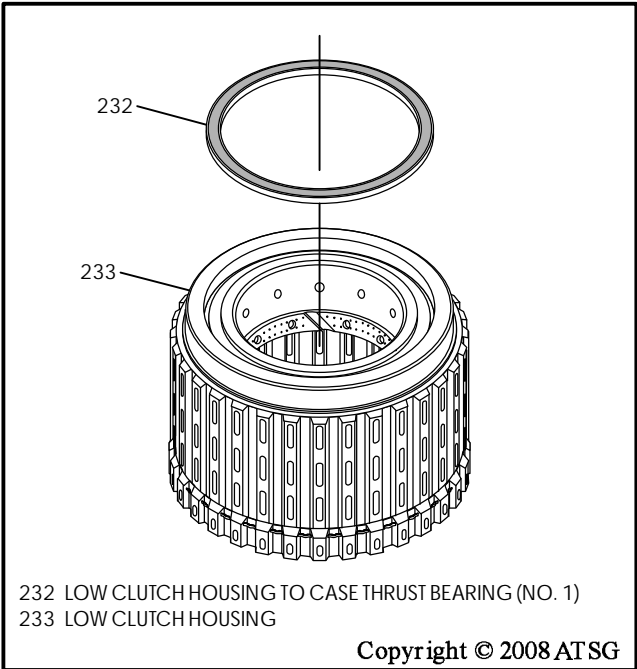

Figure 131
- 17. Turn the low clutch housing over and install the number 1 thrust bearing, with the black or gold side facing up, as shown in Figure 131, and retain with a small amount of Trans-Jel®.